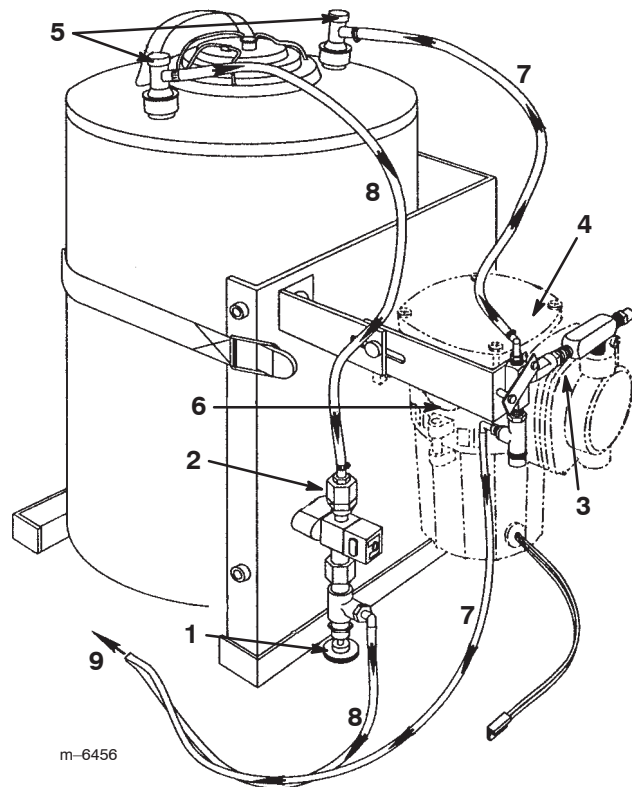

Figure 36
8. For the initial operation, open the foam density adjustment valve 1/8 to 1/4 turn (Fig. 36).